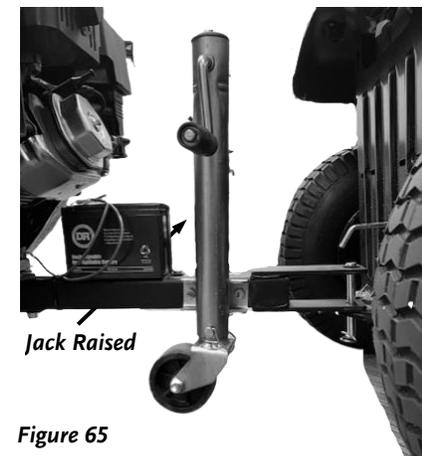

Figure 65
2. If equipped with a Jack, make sure the wheel is in the fully raised position and the Jack Safety Pin is installed to lock it in place (Figure 65).